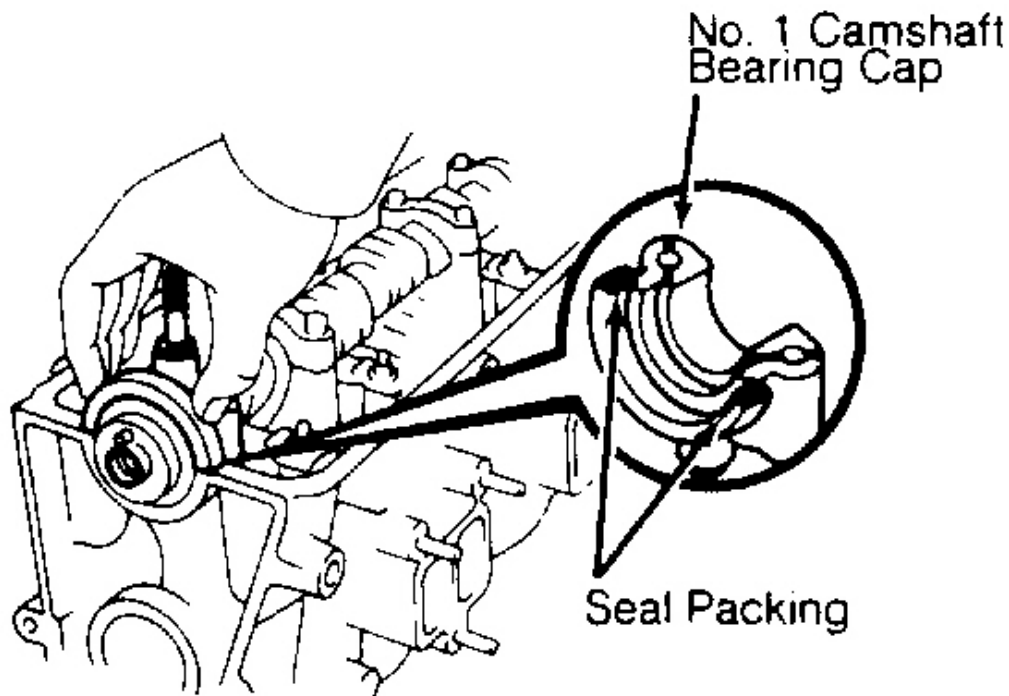

Fig. 12: Applying Seal Packing to No. 1 Camshaft Bearing Cap
2. Place bearing caps on each journal with arrows pointing to front of engine and bearing cap numbers in numerical sequence. Apply engine oil to lip of new camshaft oil seal. Install camshaft oil seal. Apply seal packing to No. 1 camshaft bearing cap. See **Fig. 12** .